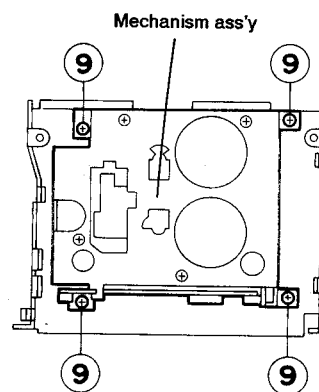

Fig. 2-9
◆ **Mechanism assembly** (See Fig. 2-9)
1. Using tweezers, detach the Mylar washer ⑥ securing the load arm assembly and pull out the load arm assembly. (Fig. 2-9)
2. Shift the load arm assembly counterclockwise. (Fig. 2-9)
3. Remove the load arm assembly from the catch (K). (Fig. 2-9)